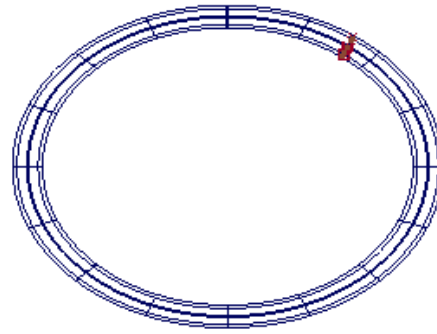

Figure 3-73 Scaled circle after turning off the grid display
11. Choose **WindowDisplay > Toggles > Grid** from the menu bar; the grid display is turned off. The scaled circle after turning off the grid display is shown in Figure 3-73.